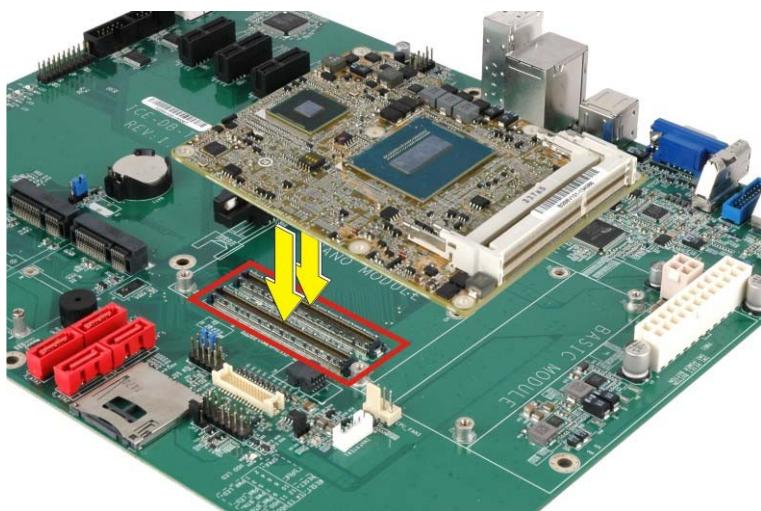

Figure 4-3: Connect the COM Express Connectors
Step 1: Align the two COM Express connectors on the reverse side of ICE-QM871 with the corresponding connectors on the baseboard. Gently push the COM Express module down to ensure the connectors are properly connected (Figure 4-3).